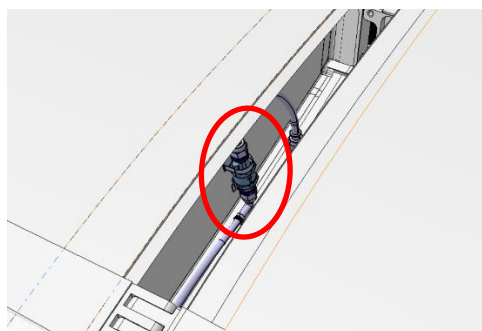
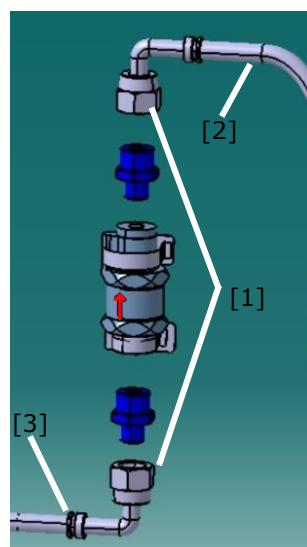

Figure 3 – Rollover valve position in wing inspection door.
Figure 4 – Rollover valve installation.
2. Uninstall the rollover valve seated in the wing inspection door (see Figure 3) by unscrewing the 90° fittings [1] see Figure 4
- a. the rollover valve in both flow directions keeping the valve in the vertical orientation with the arrow (see Figure 4) pointing upwards and then pointing downwards.
- b. the tube from the rollover valve to the vent port ([2] in Figure 4) checking that the air goes out through the vent port.
- c. the tube from the rollover valve to the fuel tank ([3] in Figure 4) checking that the air goes out through the fuel filler cap hole.